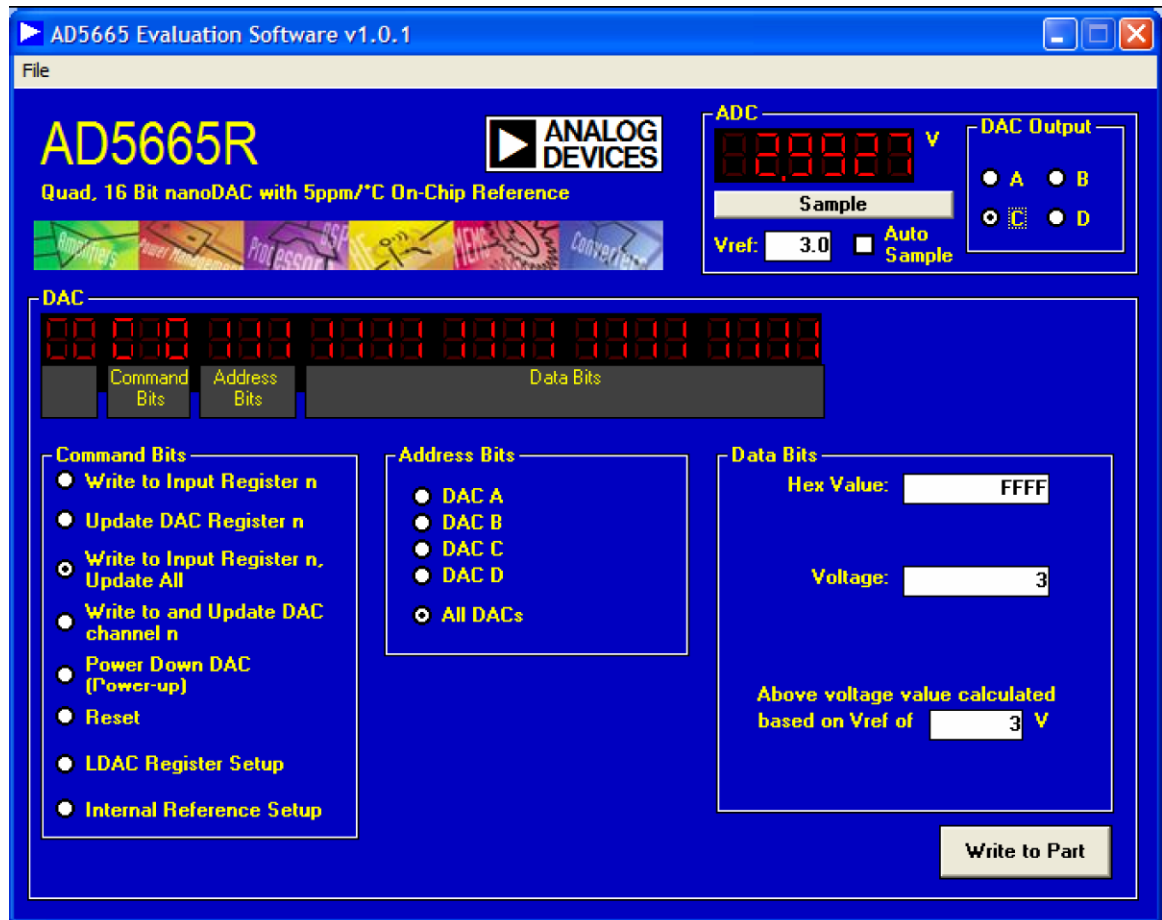

Figure 3. AD5665R Evaluation Software Main Window
4. The main window of AD5665R evaluation software opens, as shown in Figure 3. The data programmed into the 24-bit input shift register is displayed. You can select the command bits, the address bits, and the data bits by clicking the appropriate option button under each section.